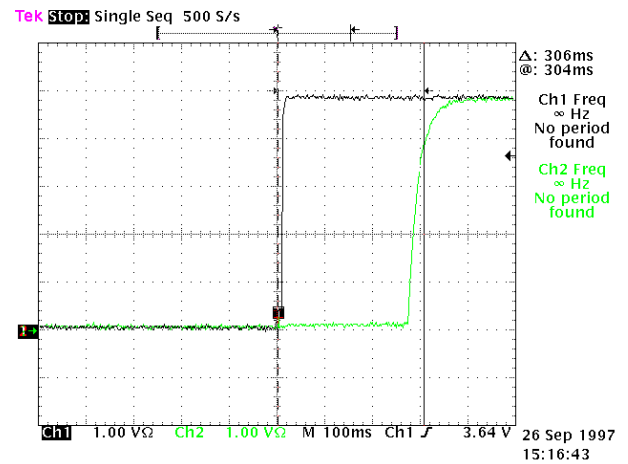
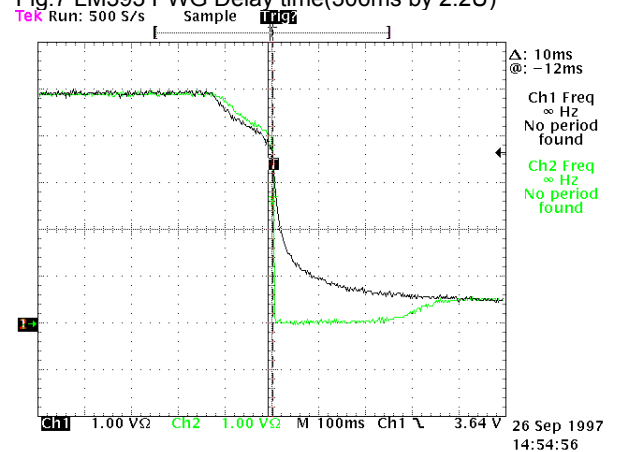

Fig.5 LM393 PWG delay time (org. , no delay)
Fig.9 LM393 PF Delay time(0ms)
- Please refer to Fig.5 - Fig. 9 for scope timing.